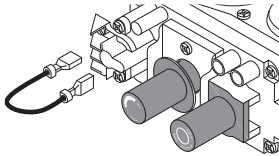

Figure 29 - Disconnecting Wires From Control Valve
1. Disconnect wires from the control valve (see Figure 29).
- Remove jumper wire from control valve (see Figure 29, page 19).